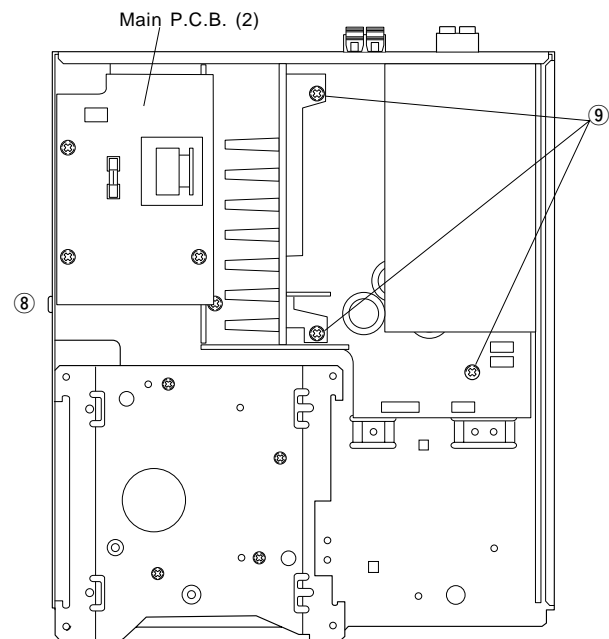

Fig. 7
- e. Remove 1 screw (⑧) and then remove the Main P.C.B. (2) in Fig. 7.
- f. Remove 3 screws (⑨) in Fig. 7.